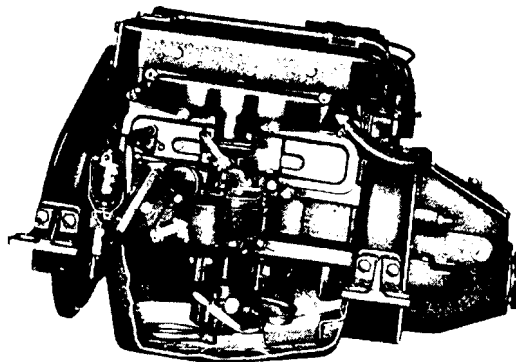

Fig. 10—Oil Level Must be Kept Above Pick-up Screen (Four-75, Illustrated)
2. **Engine Bed:** This should always be of sufficiently heavy section to insure rigidity, and well secured to the hull. Maximum operating angle of the engine at full speed, as mounted on this bed should not exceed 16 degrees from water level, because at a higher angle the lubricating oil pick-up screen may not be fully submerged (see Fig. 10, page 21). Remember that the angle may **increase** if the boat is loaded deeply at the stern and the bow is light and **high**.
General Description: Lubrication of the entire engine excepting the accessories mounted on outside of cylinder block is maintained by a positively driven gear pump located in crankcase, as shown in Fig. 10. The intake screen, which is at all times submerged in oil, picks up oil in volume proportionate to the speed of the engine, and the pump forces it through a cooler and delivers it under pressure to an oil gallery line within the cylinder block, whence it is distributed to crankshaft, camshaft, connecting